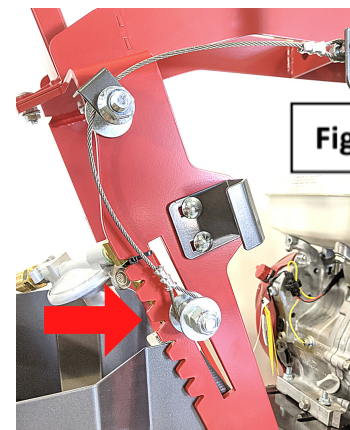

Figure 2
Blade Depth Adjustment: Red Arrows (Fig. 2)
- Blade depth adjustment cable (Red arrow: Fig. 2)